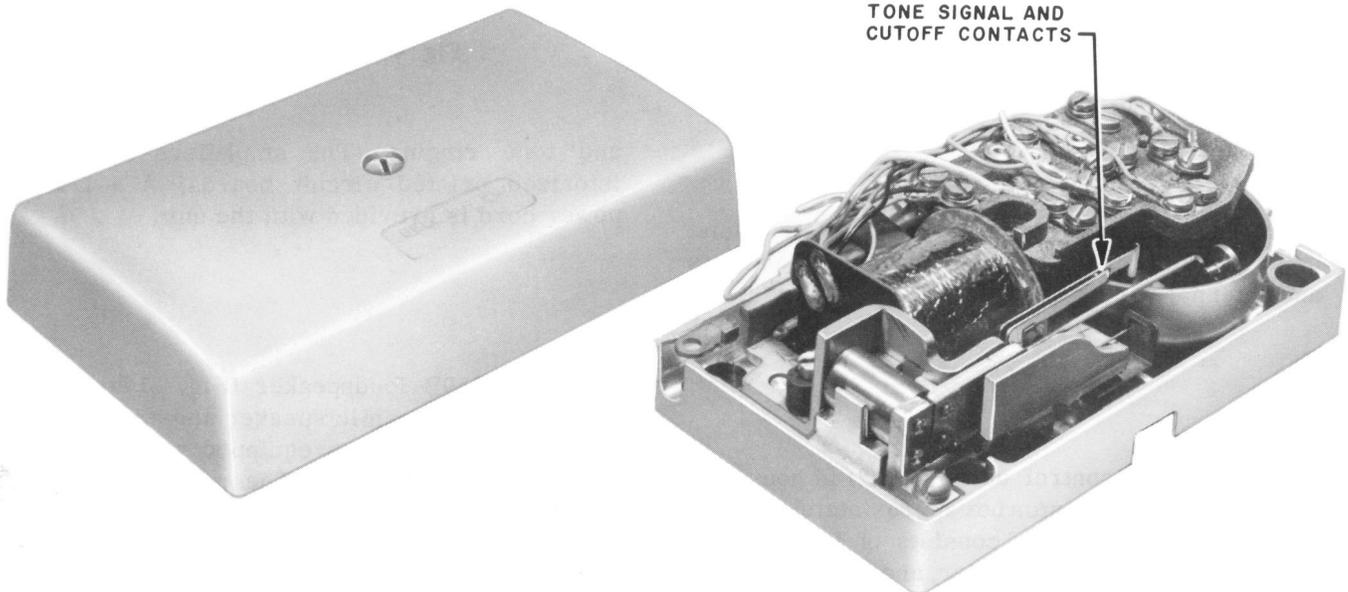

Fig. 6 - E1B Ringer
- E1B ringer (Fig. 6).
2.07 The E1B ringer (Fig. 6) is similar to the E1A except that a set of contacts has been added to actuate the tone signal in the 54A control unit when a central office call is received. The contacts are arranged so that when the volume control arm is in the extreme loud position, the contacts are opened, preventing operation of the tone signal.